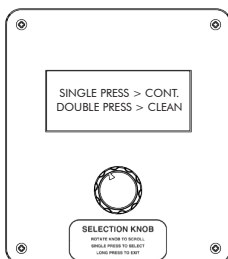

fig. no.25.4
6. The cleaning cycle is of 4 min. (fig. no.25.4)